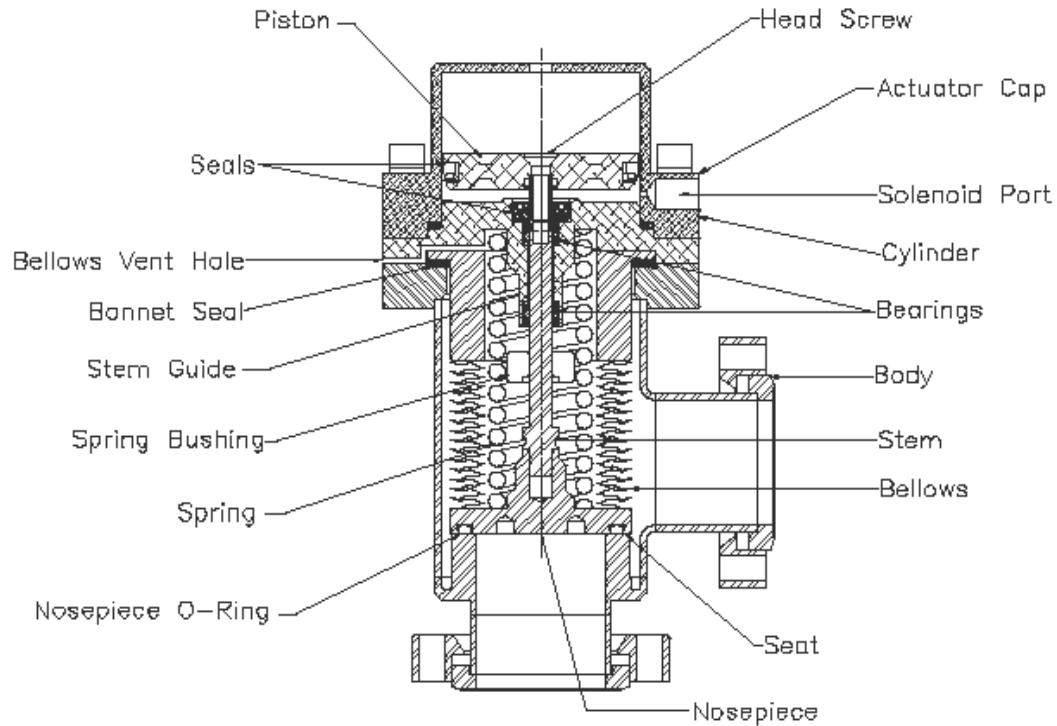

Figure 2 - The components of the pneumatic valve
Optional installation of a solenoid operated pneumatic pilot valve in the 1/8" female NPT port in the side of the actuator cylinder, see Figure 2, enables remote electrical control of the valve when direct pneumatic control is inconvenient. In its de-energized state, this 3-way valve vents the cylinder of the UHV through a threaded hole centered in the top of the solenoid coil (20). A nipple (24) connects the 1/8" female NPT outlet port on the solenoid valve to the cylinder of the UHV. The joints are sealed with an anaerobic pipe compound.
The UHV valve's most vulnerable components to temperature extremes are the organic compounds used in the seals, bearings, and lubrication. In the pneumatic version, the pressurized cavity of the pneumatic cylinder is sealed by a pair of Parker PolyPak1 Seals (see Seals in Figure 2). These standard temperature range seals are rated for service from -51° C to 93° C2.
The dynamic seals (see Figure 2) used in the UHV valves are rated for use at pressures significantly greater than those found on a typical compressed air system as are the other components of the cylinder. However, we strongly recommend not using pneumatic pressures in excess of 150 psig. If the valve is equipped with the optional solenoid pilot valve, pneumatic pressures in excess of 125 psig will result in pneumatic leakage and possible valve failure.